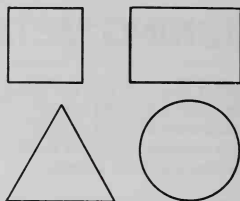

Fig. 2-2. Four basic shapes.
2. Shape. There are four basic shapes – square, rectangular, triangular and round, Fig. 2-2. You see these shapes, or a combination of these shapes, when you look at natural or manufactured objects. Shape is influenced by function.